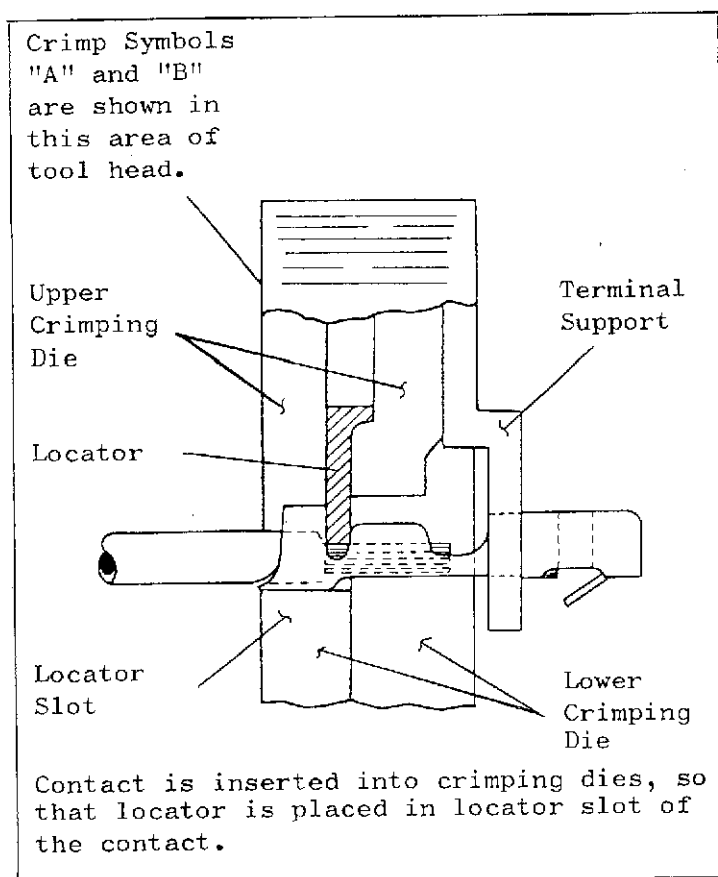

Fig. 3
- d) Looking straight into the appropriate crimp section, insert the contact (insulation barrel first) into the other side of crimp section. Position the contact in the crimpers so that the locator enters the locator slot. (See Fig. 3.)